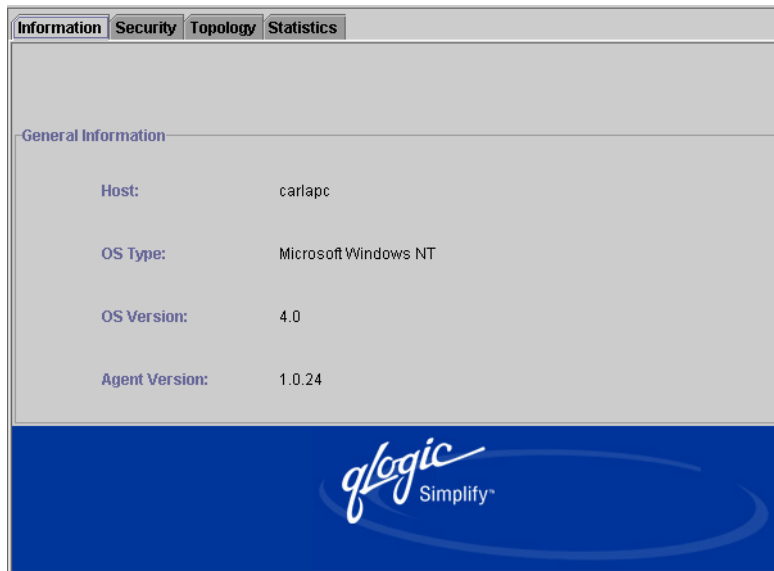

Figure 9-1. Host Information Tabbed Page
2. Select the **Information** tab. The **Host Information** tabbed page displays (see figure 9-1).